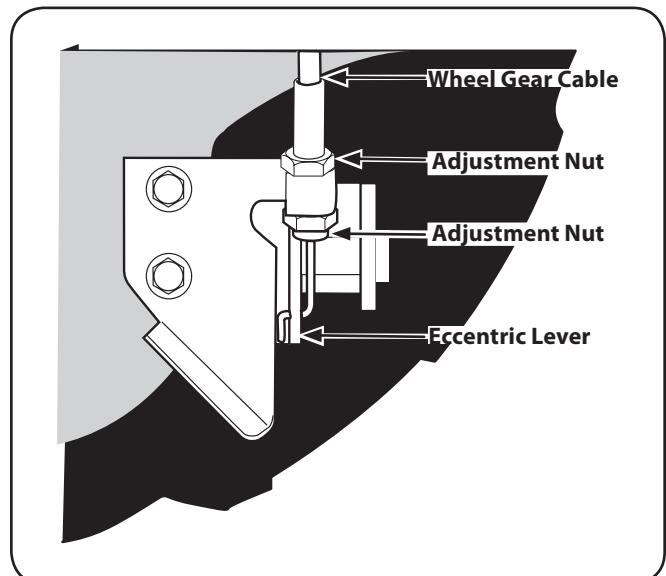

Figure 6-3
- Loosen the top adjustment nut on the wheel gear cable bracket that is located on the left side rear of the transmission. See Figure 6-3.